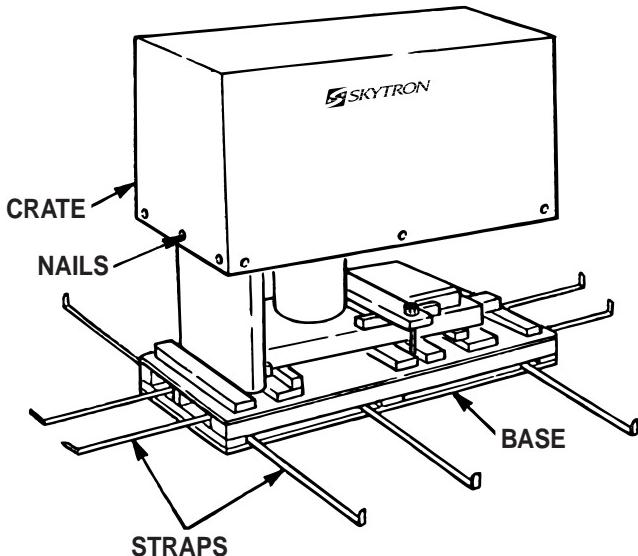

Figure 1.
1. Cut and remove the plastic straps and remove the nails around the base of the crate. See figure 1.